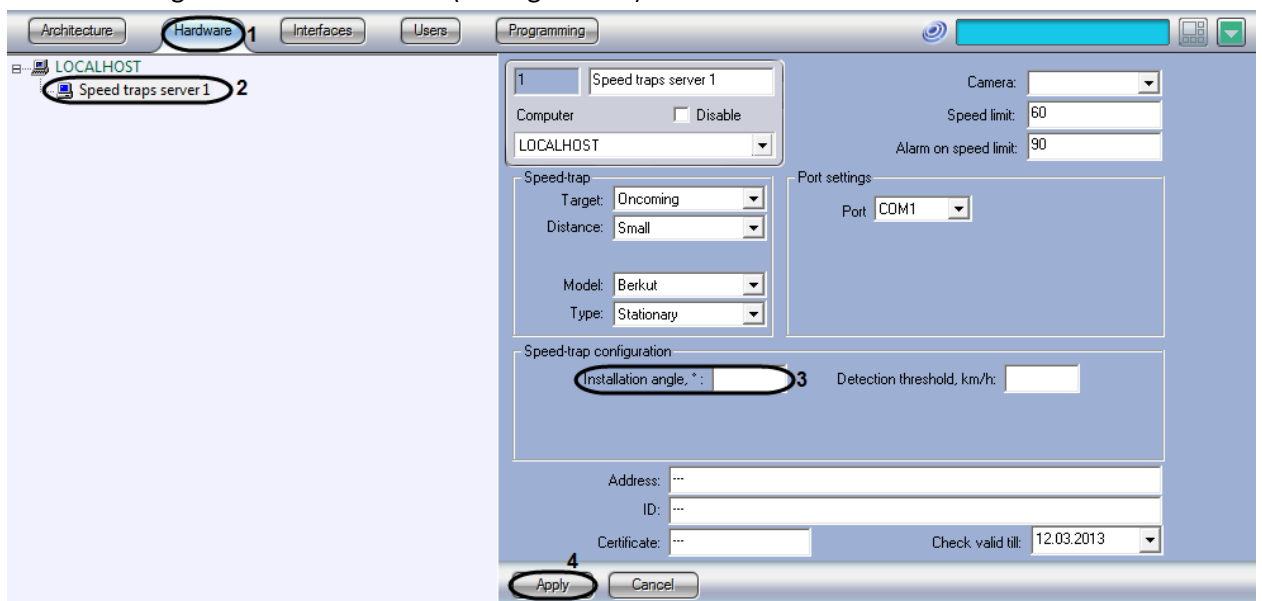

Fig. 7.3—9 Setting the speed-trap mounting angle
2. In the object tree on the left side of the Hardware tab, select the Speed-trap server object representing the Radar module to be set up. The settings panel of the selected object will open on the right side of the window (see Fig. 7.3—9).